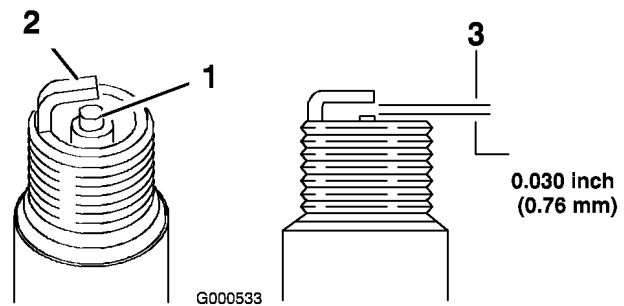

Figure 27
5. Set the gap on the plug to 0.030 in. (0.76 mm) (Figure 27).